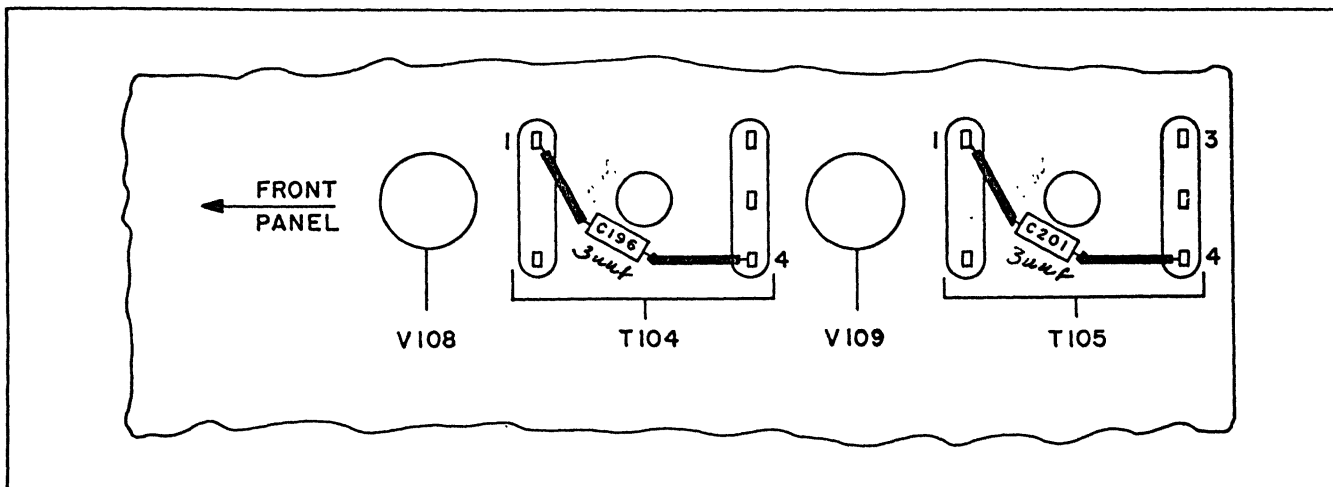

Figure 3. Broadbanding Wiring, Bottom View
50. Referring to Figure 6, locate i-f transformers T104 and T105 on top of the receiver chassis. Locate their terminals below the chassis, as shown in Figure 3 (p. 7).
51. Refer to Figure 3 to find small ceramic capacitors C196 and C201. 51J-2: These capacitors are not used on some models. If not used, omit procedures 51 and 52.] Unsolder, remove, and discard C196 from terminals 1 and 4 of T104.
53. Connect and solder new capacitor C196 between terminals 1 and 4 of T104, as shown in Figure 3.
- 67. A single insulated wire or coax connects to terminal 3 of T105 (see Figure 3). The other end connects to a standoff tie-point. To measure diode-detector output voltage, connect a d-c vacuum-tube voltmeter from this tie-point to the chassis. Switch the meter to read negative d-c voltage on a 5- or 10-volt range. Turn the receiver on.